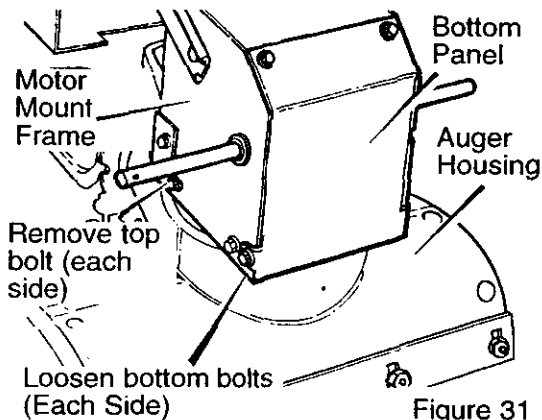

Figure 31
4. Remove the **bolts** on each side of the **motor mount frame**. See Figure 31.
12. Install the **bolts** on each side of the **motor mount frame**. See Figure 31.
- Install the bolts on each side of the motor mount frame. See Figure 31.